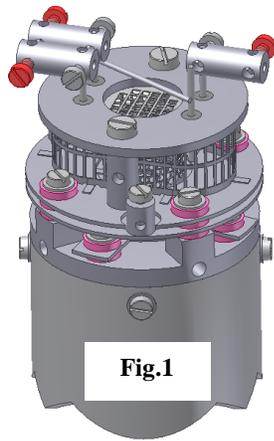

Fig.1
2. The filaments are located on the very top of the analyser, retained by two M2 x4 pan head screws. The electrical connections are made via three barrel connectors, one to each filament and one to filament common, see Fig.1.
3. Loosen the three M2x4 screws highlighted in red that secure the filament connecting wires, see Fig.1.